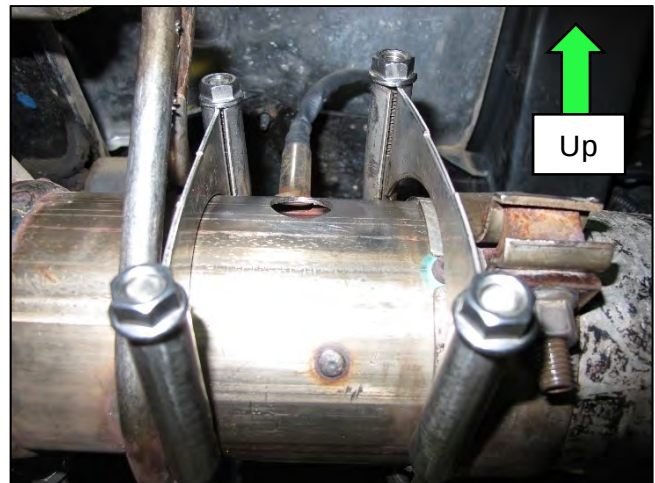

Figure 25
- Orient the U-bolt clamps on the SCR catalyst outlet with the U-bolt clamp nuts facing upward, as shown in Figure 25.